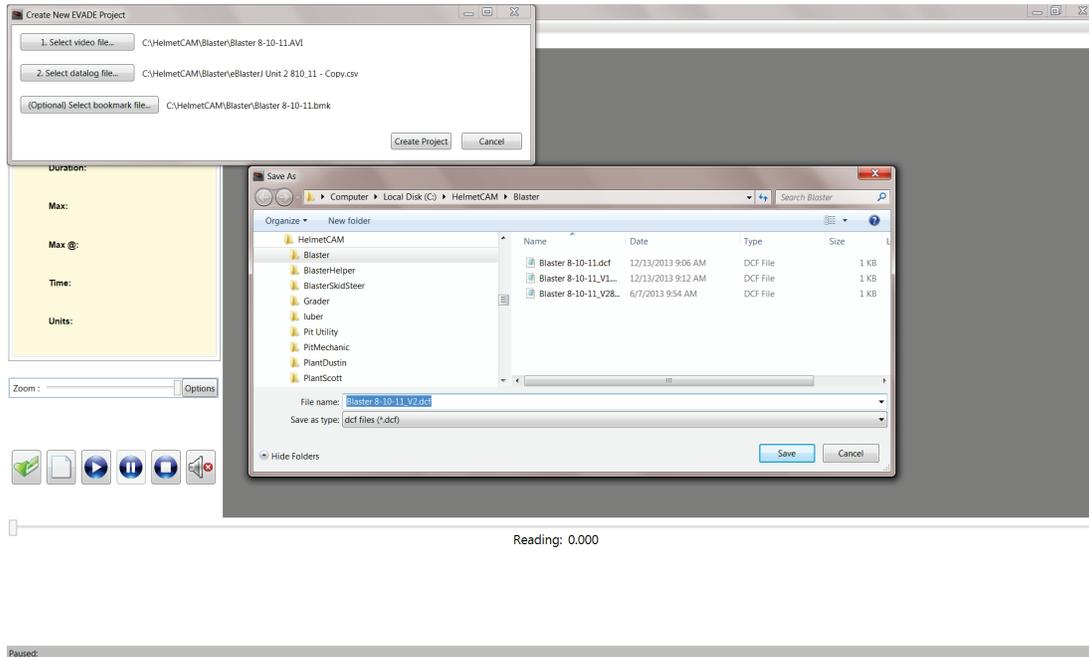

Figure 29. The Save As dialog box displayed after selecting Create Project.
- After selecting **Create Project**, a **Save As** dialog box will open allowing you to save the project (Figure 29). NOTE: To prevent overwriting the *dcf* files, the filename will be changed to *<filename_v1>.dcf*. With subsequent saves, *_v1* will automatically increase as follows: *_v1*, *_v2*, *_v3*, etc. The user always has the option to rename the file. Once **Save** is selected, the window will update to display the video and dust concentration graph in the EVADE main window. Once the window updates, the EVADE program is ready to be used to conduct the dust exposure analysis.